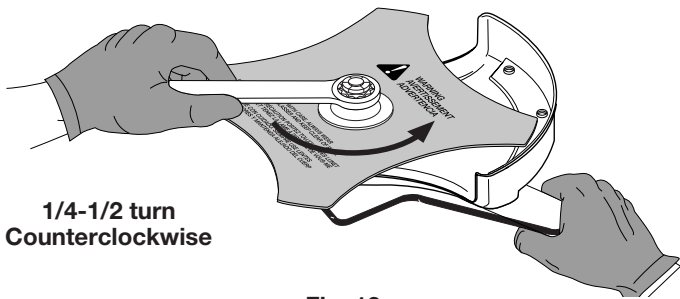

Fig. 12
- Without a torque wrench, use a 13 mm closed-end or socket wrench, turning the nut until the blade retainer is snug against the shaft bushing. Make sure that the blade is installed correctly, then rotate the nut an additional 1/4 to 1/2 turn counterclockwise (Fig. 12).